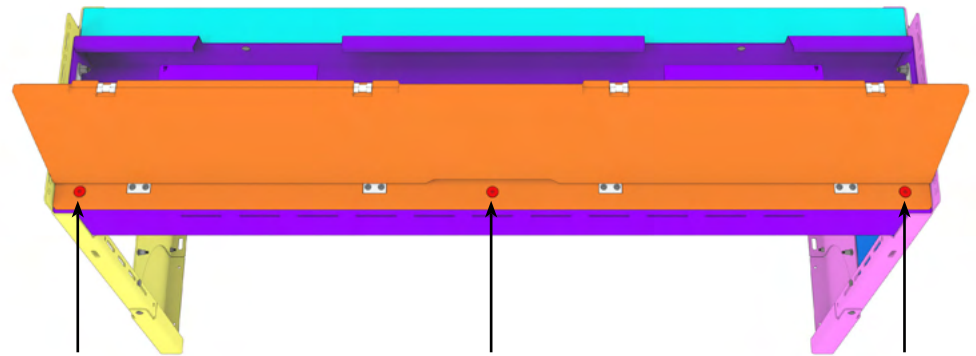

FIG 18
**2.7 Attach Table Top to Top Tray:** Attach the **Table Top** to the **Top Tray** using (3) 3/8-16 x 1.25 Hex Drive Flat Head Screws, Flat Washers and Nylon Locknuts in the locations shown in FIG 18.